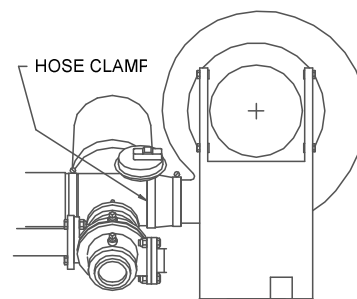

Figure 7.6
18. Loosen the hose clamp on the air/fuel valve inlet and slide the clamp back towards the blower (Figure 7.6).